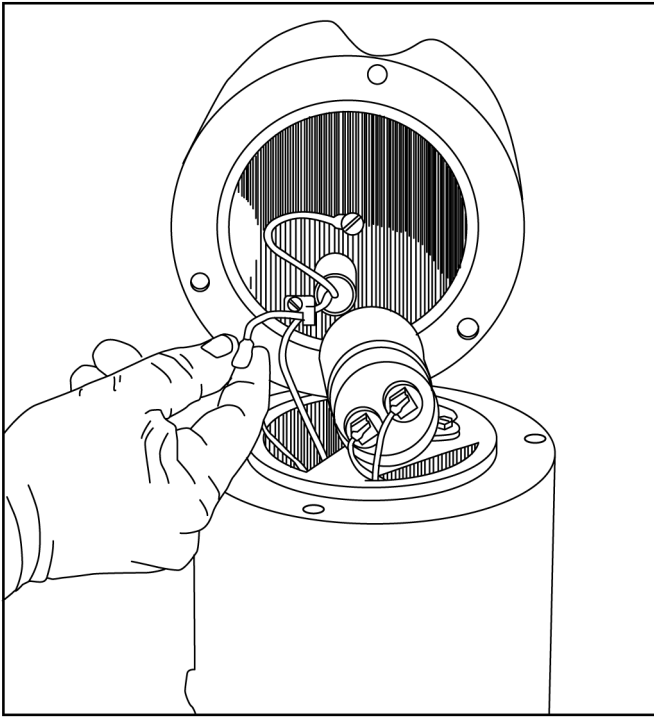

FIG. 10
3. Lift housing and disconnect motor leads and capacitor wires. Fig. 10